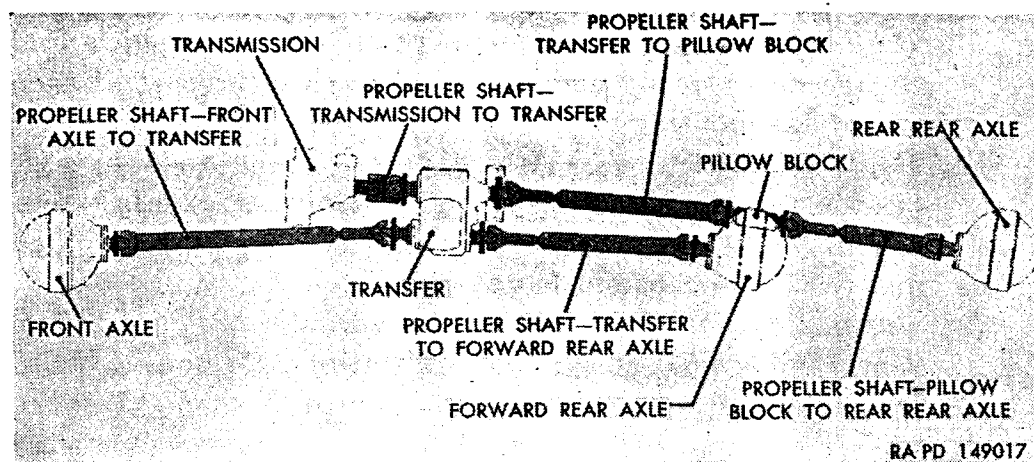

Figure 238. Propeller shafts and universal joint arrangement.
a. General. This section includes replacement of axle drive propeller shafts and universal joints, pillow block, and repair of universal joint assemblies. Arrangement of axle drive propeller shafts is shown in figure 238.
Note. Propeller shafts (fig. 238) are installed with slip joint toward front of vehicle, except shaft used between front axle and transfer, which is installed with slip joint toward rear of vehicle.